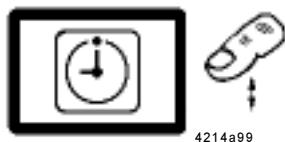

Fig. 28 - Acknowledging a flashing fault signal „Er“
Note: If a malfunction is present (flashing display), first acknowledge the malfunction, then trigger an additional lubrication (see fig. 28).
- On pressing the key (fig. 28), the flashing display * Er * changes into a continuous light.